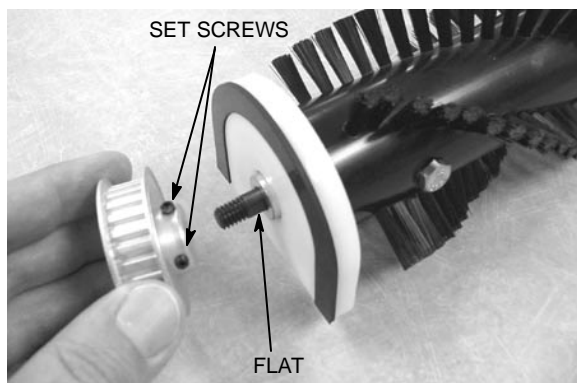

FIG. 7
7. Re-attach pulley to brush shaft. Line up one of (2) set screws on pulley with flat surface on brush shaft. Tighten set screws and re-attach hex nut (Figure 7).